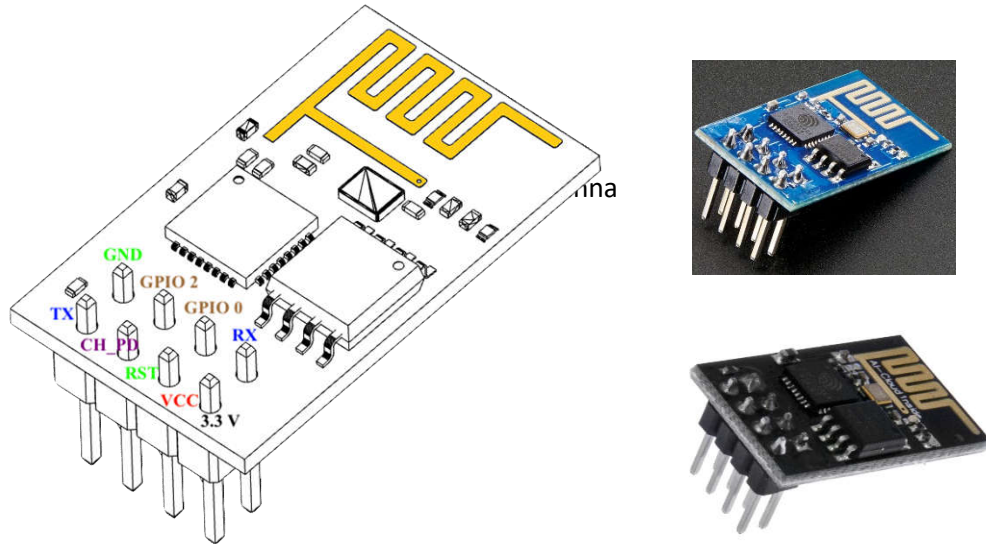

Figure 1: ESP8266-01 Pinout and Commonly Available Modules.
Fig. 1 shows the ESP8266-01 breakout model, which basically has the “minimal” pinout required for operation as well as the printed/PCB antenna. In this report, the pinout is basically used for:
Fig. 1 also shows two of the most common modules available for purchase since several years.
- A few extra available pins for I/O controlled from the ESP8266 itself, while maintaining the pins already described for the ESP8266-01 in Fig. 1: Vcc (3.3v), Gnd, CH\_PD, Rx, Tx, and GPIO0.